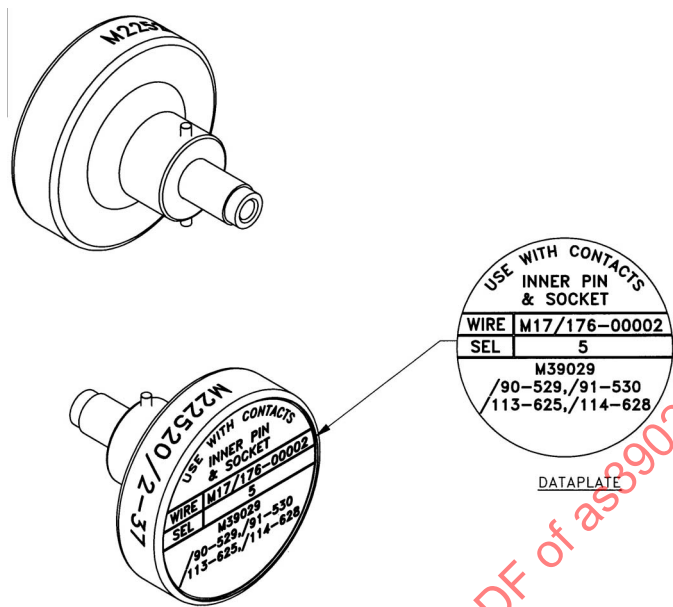
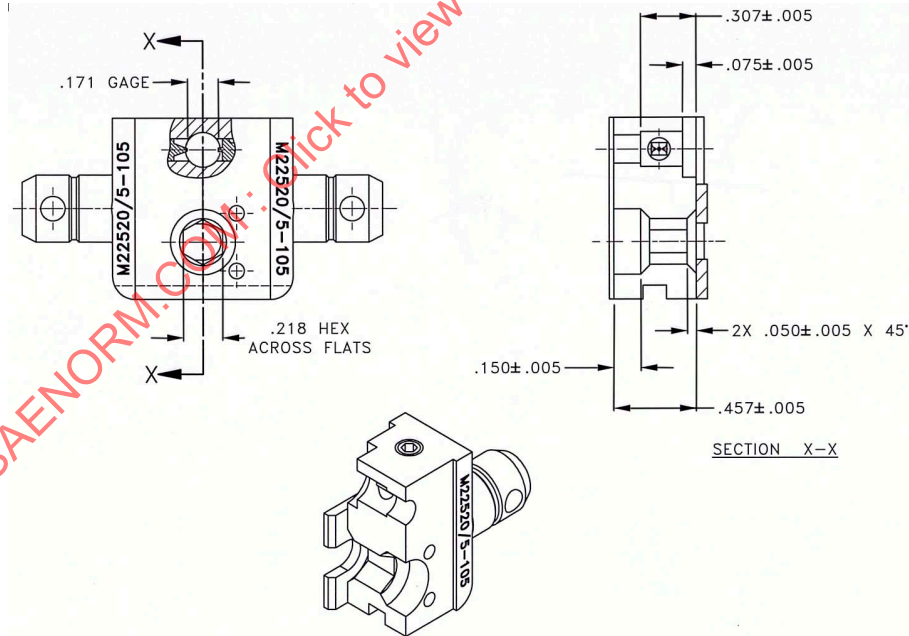

FIGURE 1 - GRAPHIC OF M22520/2-37 POSITIONER
FIGURE 2 - GRAPHIC OF M22520/5-105 DIE
3. ONE BOOT SHALL BE PROVIDED WITH EACH ASSEMBLY (FIGURE 1). REPLACEMENT BOOTS MAY BE ORDERED BY THE PART NUMBER SPECIFIED IN TABLE 9.
THE MAXIMUM NUMBER OF PIECE PARTS IN THE ASSEMBLED CONTACT (FIGURE 1), EXCLUDING THE HEAT SHRINK BOOT, SHALL NOT EXCEED FIVE. THE CONTACT SHALL BE PROVIDED AS UNASSEMBLED PIECE PARTS IN ONE OF TWO DIFFERENT CONFIGURATIONS (BIN CODE 625 OR 626). BOTH CONFIGURATIONS ARE INTERCHANGEABLE IN THE FINAL ASSEMBLY (FIGURE 1). SOME PIECE PARTS OF BIN CODE 625 (FIGURES 2 AND 3) AND BIN CODE 626 (FIGURE 4) REQUIRES DIFFERENT CRIMP TOOLS PRIOR TO FINAL ASSEMBLY (SEE TABLE 8). SEE TABLE 1 FOR DESIGN CHARACTERISTICS.